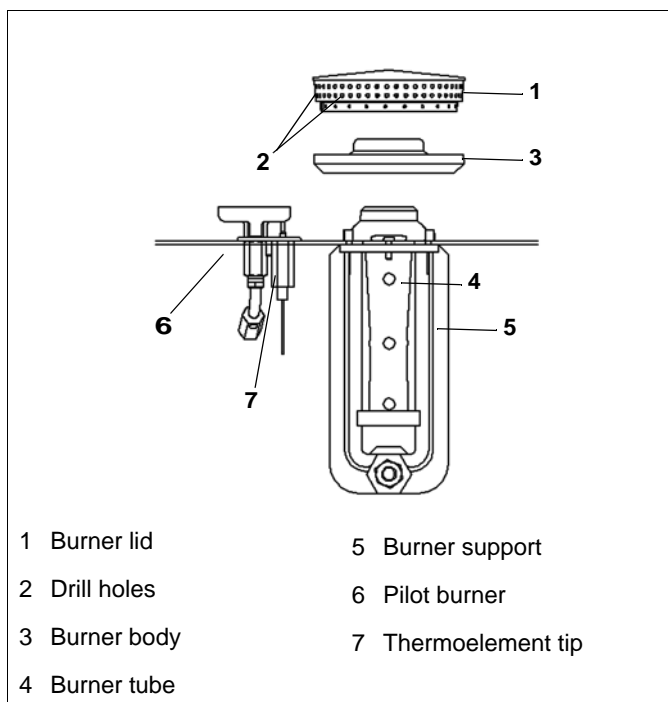

Fig. 11 Burner
⇒ Lift off the burner lid (1 / Fig. 11) and pilot burner body (3 / Fig. 11).
⇒ Clean blocked holes (2 / Fig. 11) on the burner cover (1 / Fig. 11) and holes in the pilot burner (7 / Fig. 11), blow through if necessary.
⇒ Do not use abrasive paper to clean the tip of the thermoelement (7 / Fig. 11). The sensor must be free of cracks.
⇒ Take great care that no dirt enters the gas supply line (burner tube (4 / Fig. 11) and the pilot burner opening). Cover these places if necessary.
- The burner lid (1 / Fig. 11) must lie evenly and engage in the burner body which must engage in the burner tube.